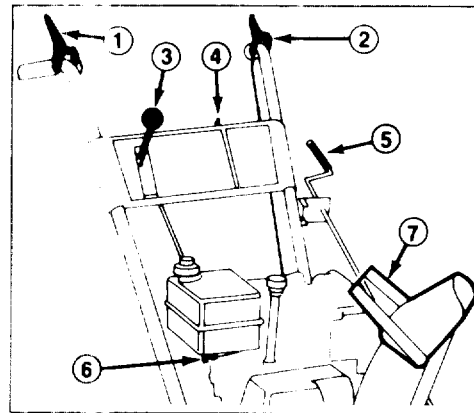
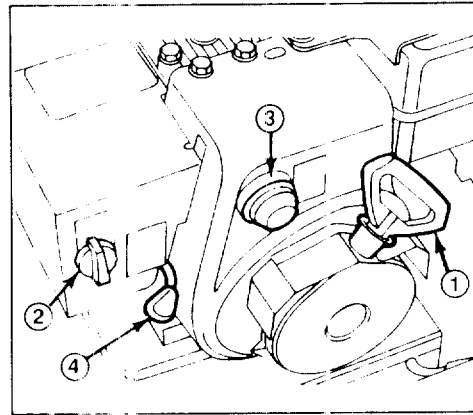
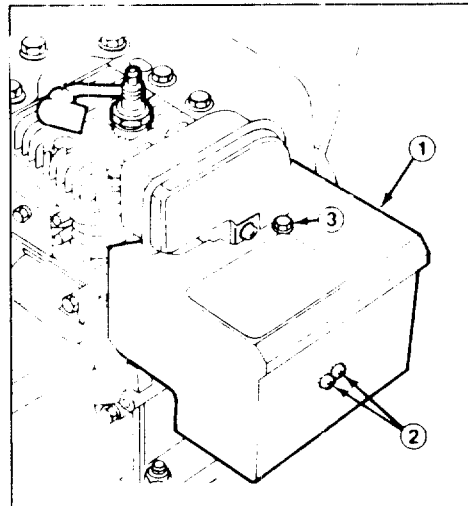

Figure 14
Figure 15
Figure 16
Auger Drive Control (Fig. 14)—Control has two positions: ENGAGE and DISENGAGE. To engage both auger and impeller, compress lever against right handgrip. To disengage, release lever.
Traction Control (Fig. 14)—To engage traction (wheel drive), lever must be compressed against left handgrip. To stop traction, release lever.
Speed Selector (Fig. 14)—The control has four positions: reverse, 1, 2 and 3. To change speeds, move gear shift to position desired. Lever will lock in notch at each speed selection. Use positions 1, 2 or 3 depending on snow conditions.
Ignition Switch (Fig. 14)—Switch has two positions: ON and OFF. Rotate key to ON position before starting engine with the recoil starter. To stop engine, rotate key to OFF.
Throttle (Fig. 15)—Moving the throttle upward increases engine speed.
Choke (Fig. 15)—Rotate choke to FULL choke position to start a cold engine. As engine warms up, move choke gradually to OFF.
Primer (Fig. 15)—Press primer to pump a small amount of gasoline into engine for improved cold weather starting.
Fuel Shut-Off Valve (Fig. 14)—Valve is located under fuel tank. Close valve to stop fuel flow from fuel tank and open valve to allow fuel to flow to the carburetor. Close valve when snowthrower is not in use.
Discharge Chute Control (Fig. 14)—Rotate discharge chute control clockwise to move discharge chute to the left and counterclockwise to move chute to the right.
Recoil Starter (Fig. 15)—Recoil starter is on back side of engine. Pull recoil starter to start engine.
(Fig. 14)—Deflector handle is on top of discharge chute, and it is used to control height of the snow stream.
Note: If engine is operated when temperature is $+40^{\circ}\text{F}$ (4°C) or higher, remove carburetor heater box (Fig. 16). However, the heater box must be reinstalled when temperature falls below $+40^{\circ}\text{F}$ (4°C). To remove heater box
A. Remove (2) phillips screws and (1) hex head screw securing heater box in place (Fig. 16). Pull choke knob off choke rod (Fig. 15).
1. Move throttle (Fig. 15) to FAST.
2. Open fuel shut-off valve below fuel tank (Fig. 14)
3. Rotate choke (Fig. 15) to full choke position.
4. Rotate ignition key (Fig. 14) to ON.
6. Grasp recoil starter handle (Fig. 15) and pull it out slowly until positive engagement results; then pull vigorously to start the engine. Keep firm grip on starter handle and return the rope slowly.
7. After engine starts, immediately rotate choke (Fig. 15) to 3/4 position. As engine warms up, rotate choke to 1/2 position; then to OFF position. If engine falters, return choke to 1/2 position. When engine warms sufficiently, rotate choke to OFF position.
1. Release traction and auger drive controls (Fig. 14).
2. Move throttle (Fig. 15) to slow and rotate ignition key (Fig. 14) to OFF.